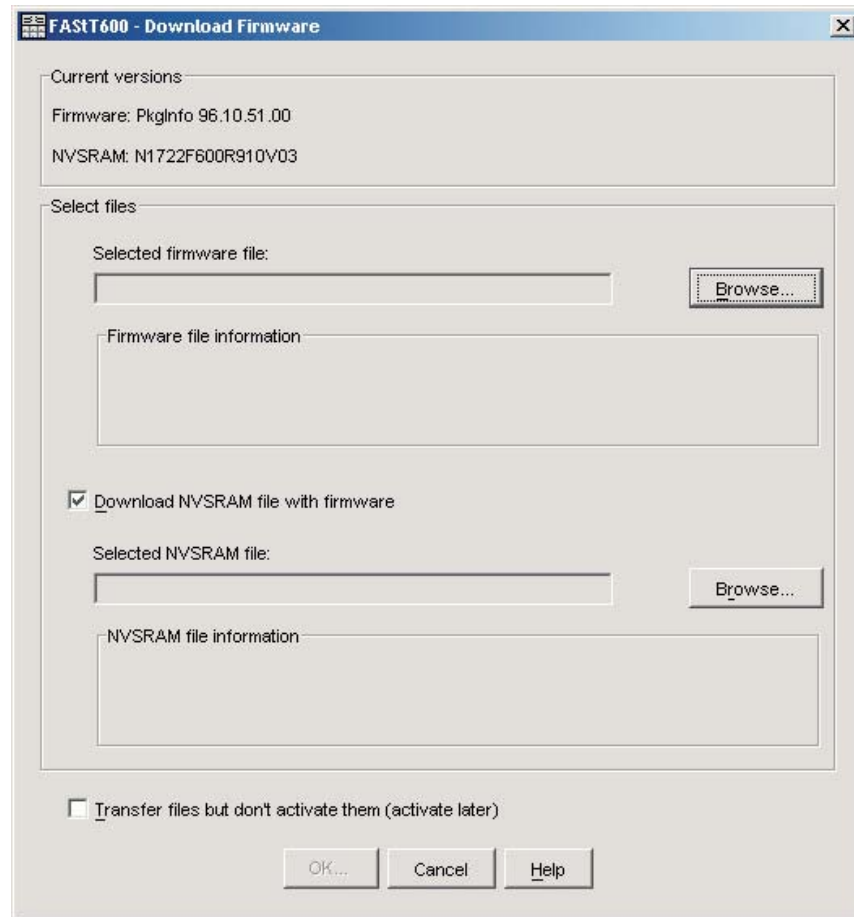

Figure 25. Download Firmware window
3. Click **Advanced** → **Maintenance** → **Download** → **Controller firmware...**. The download firmware window opens as illustrated in Figure 25 on page 123.